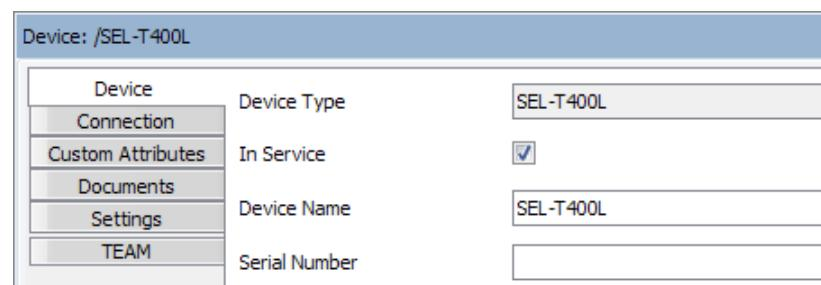

Figure 76 Set Device to In Service
Step 3. Select the **Device** tab, select **Edit**, and select the **In Service** check box, as shown in Figure 76.